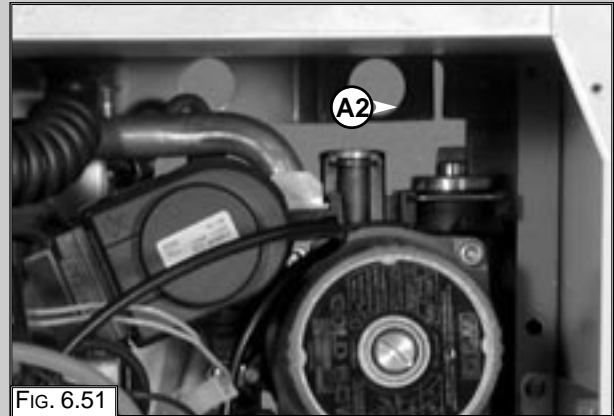

FIG. 6.51
1. Remove the U-clip "A2" (Fig. 6.51);